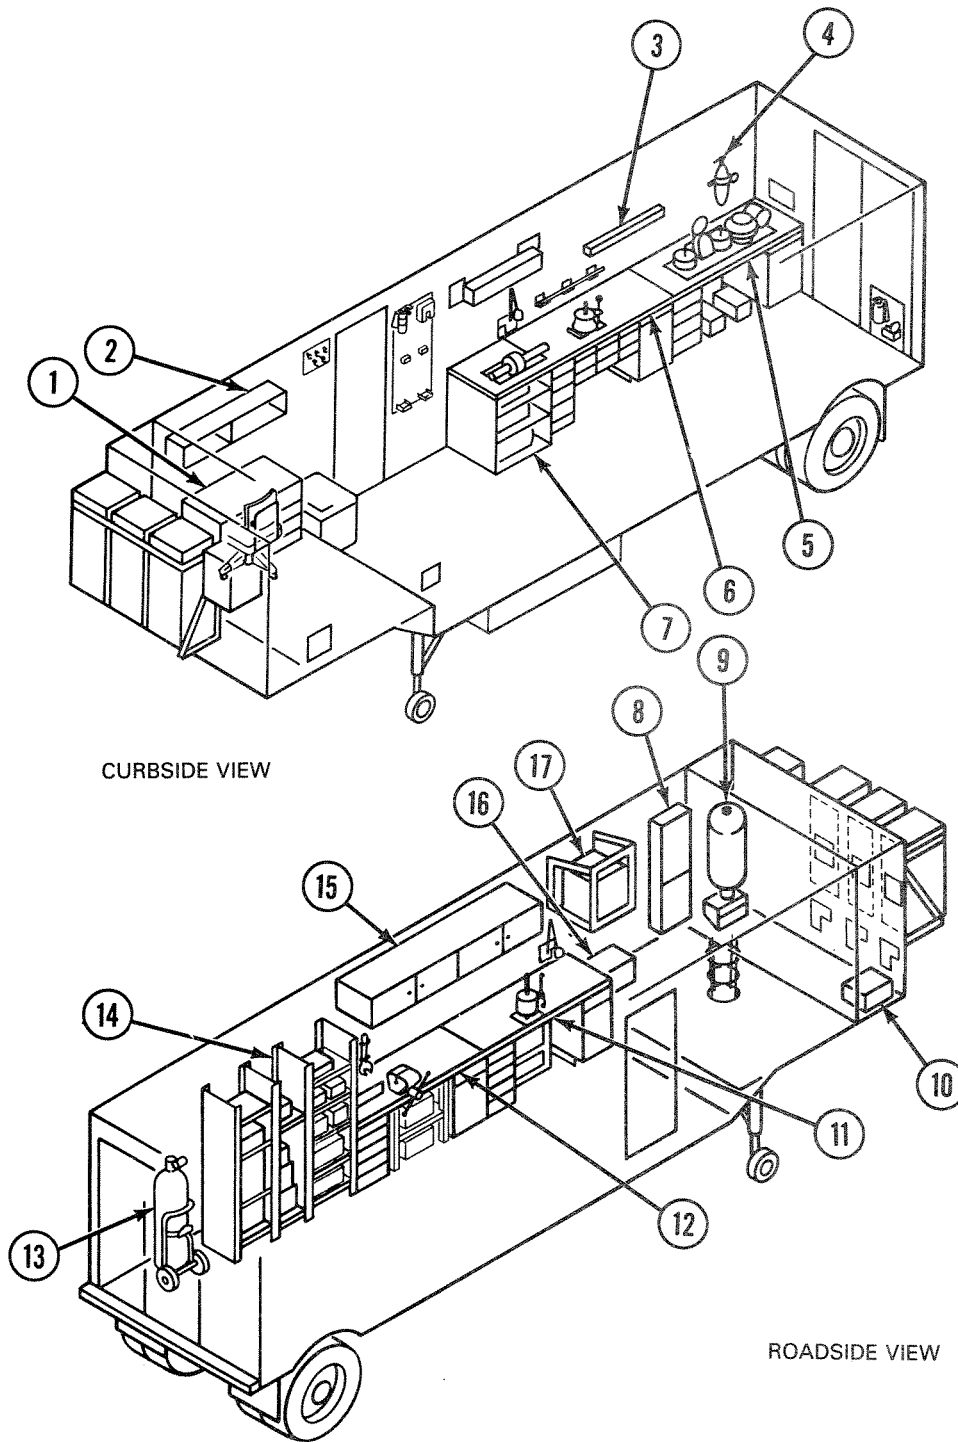

Figure 2-36. Mechanical Repair Shop Major Interior Features
b. Interior Features. Figure 2-36 shows mechanical repair shop major interior features.